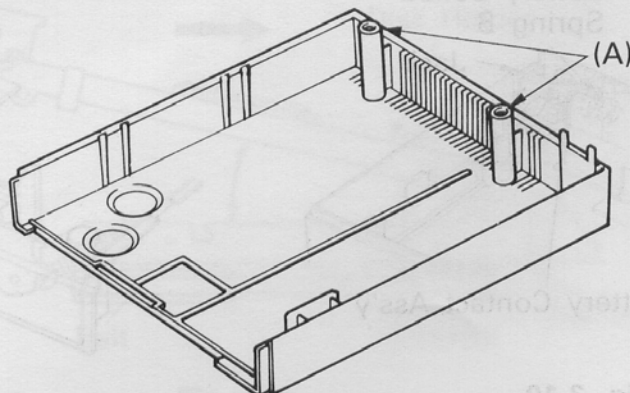

Fig. 3-13
Do not let the legs (A) of the upper case interfere with the movement of the shielded wire of the head (Fig. 3-13). Also, be sure to provide sufficient length to the shielded wire so that it may move freely, even if the head is moved to the center.